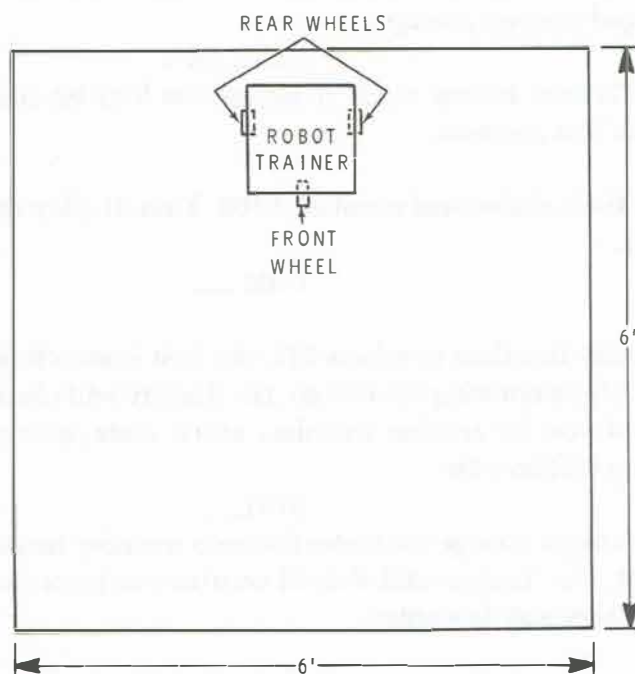

Figure E1-1
4. Position the Trainer as shown in Figure E1-1.